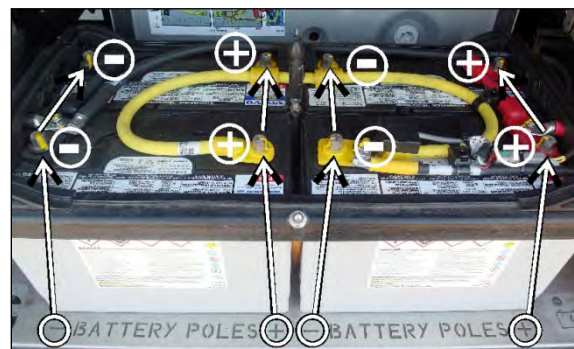

FIGURE 50: BATTERY BANK
1. To respect battery polarity in the arrangement, positive (+) and negative (-) signs are laser cut on the battery deck steel sheet. When installing the batteries, place the battery negative and positive poles according to the signs on the battery deck (Figure 50).